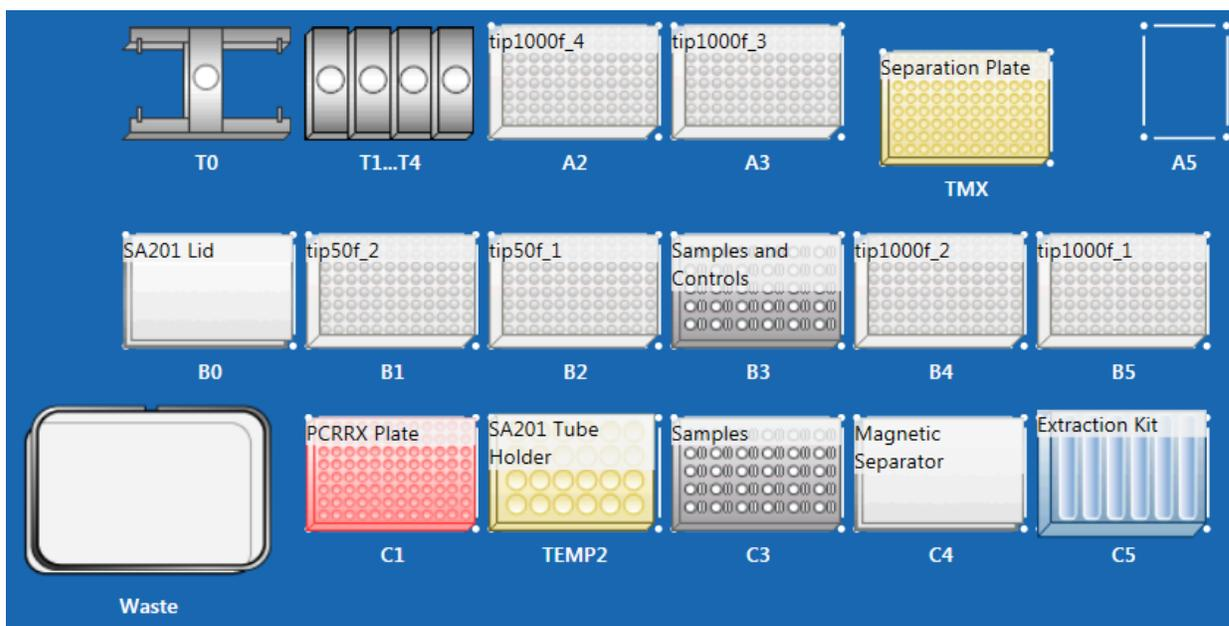

Figure 1. Layout of the Sentosa® SX101 platform for 96 tests
Figure 1 shows the positions of consumables / labware on the Sentosa® SX101 platform. Double line the Sentosa® SX Waste Bin with biohazard bags. Please refer to the layout as indicated by the Sentosa® SX101 instrument software or the appendix to load all items in the correct positions.
- 2.5. Place the correct *Sentosa*[®] SX Reservoirs and Modules into positions 1 to 7 of the *Sentosa*[®] SX Reservoir Rack 7 (refer to **Figure 1**, C5) according to the table below.
- 2.10. Set the MicroAmp® Fast Optical 96-Well Reaction Plate with Barcode, 0.1 mL on the epMotion® Thermoblock for PCR 96 Wells Thermoblock PCR 96, and place the assembly on position C1 of the *Sentosa*® SX101 platform (refer to **Figure 1**).
- 2.11. Load the *Sentosa*® SX Non-Partition 1000 µL Filter Tips, *Sentosa*® SX Deepwell Plate 96/2000 µL, *Sentosa*® SX Non-Partition 50 µL Filter Tips and *Sentosa*® SX Magnetic Separator on the *Sentosa*® SX101 platform. Please refer to the layout as indicated by the *Sentosa*® SX101 instrument software (see **Figure 1**) or the appendix to load all items in the correct positions.
2.16. Load NC, PC and samples onto the Sentosa® SX Rack 0.5 + Adaptor / 1.5 / 2.0 mL (refer to Figure 1, B3 & C3) as illustrated below.
After scanning, place the reaction plate back onto the *Sentosa*[®] SX Thermoblock PCR 96 OC (refer to **Figure 1**, Location: C1). The reaction plate should be oriented with the barcode label facing towards the user.